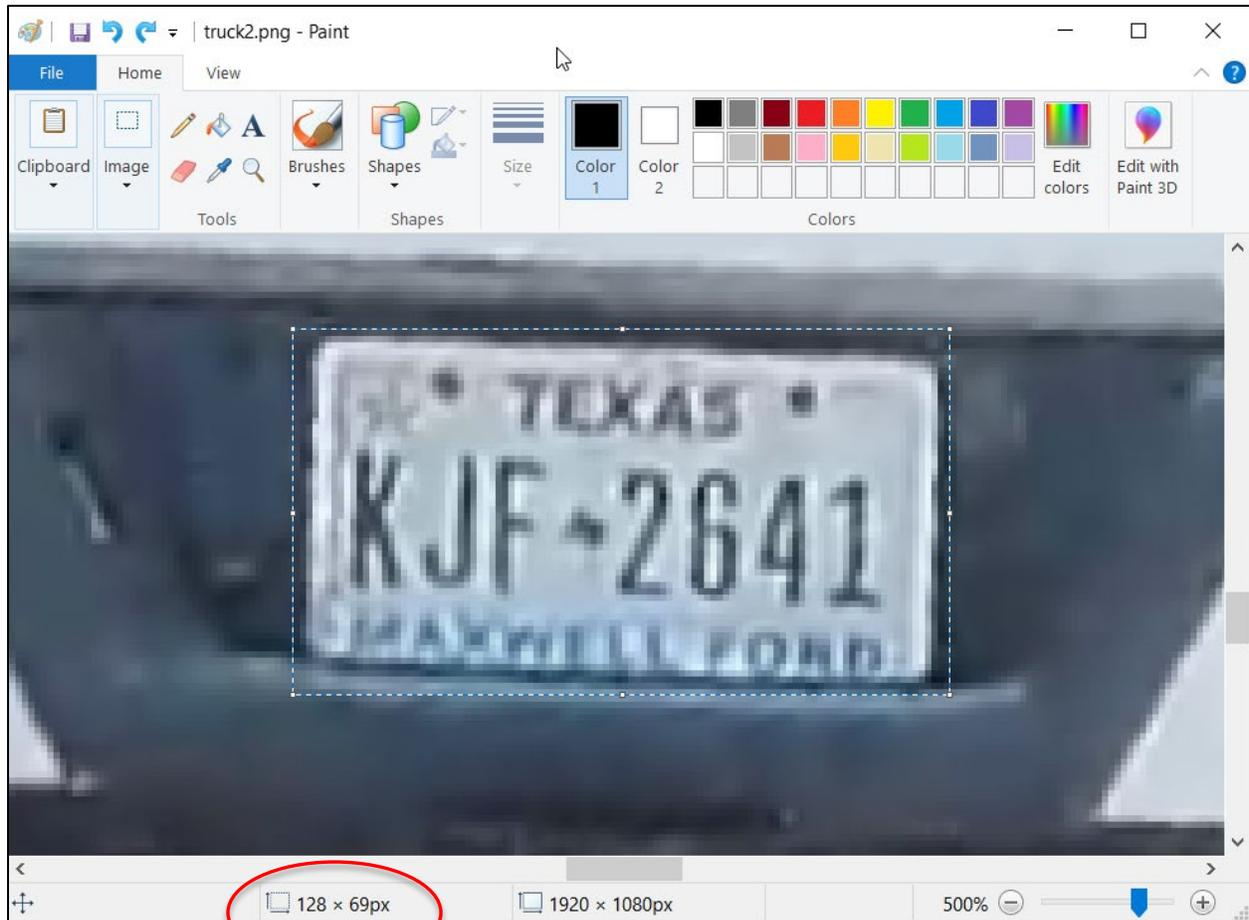

Figure 11
4. Observe the dimensions in pixels at the bottom of the window. (circled in red in Figure 11 below).